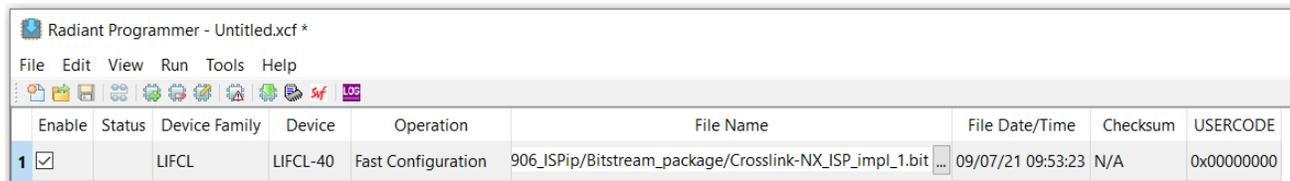

Figure 5.2. Set up Configuration Settings for CrossLink-NX Board
5. A new window pops up (Figure 5.2). Make sure the configuration settings for the CrossLink-NX Board are the same as those shown in Figure 5.2.